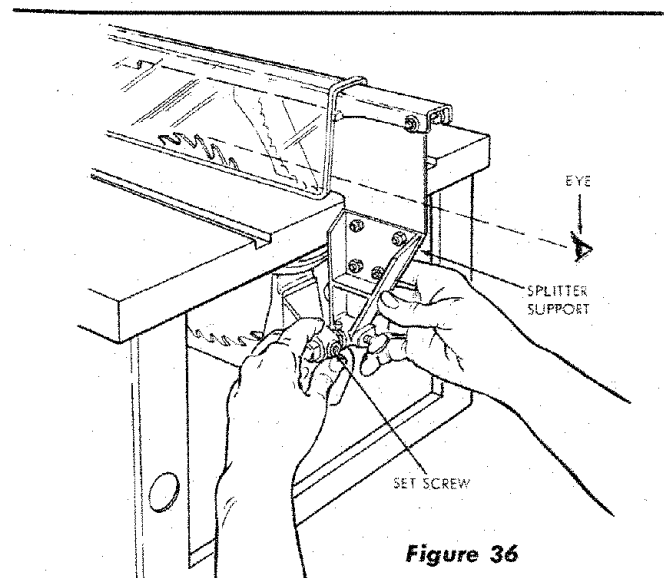
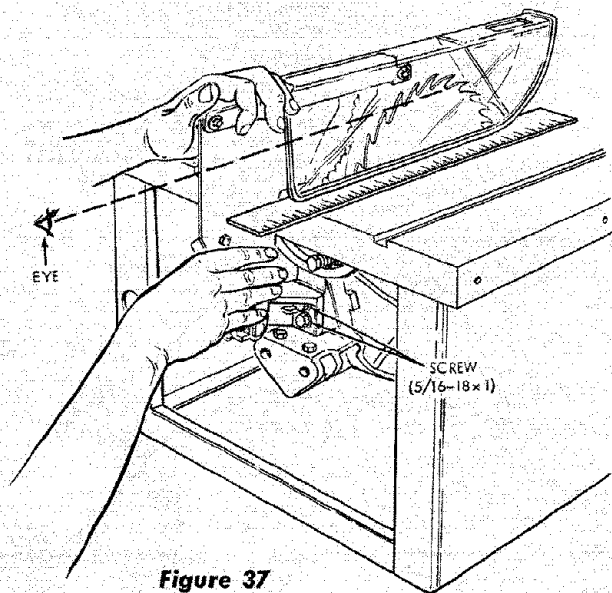

Figure 36
Figure 37
- (4) Slide the splitter rod (attached to splitter support) into the splitter blade bracket until the splitter blade is directly behind the saw blade. (See figure 36.) Do not be concerned if the splitter bar does not align with saw blade vertically as this will be corrected in the next step. Tighten the socket-head set screw in splitter blade bracket with a 5/32-inch hex-L wrench.
(5) With saw blade all the way up, **MAKE SURE IT IS 90° OR SQUARE WITH THE TABLE.** Raise the blade guard and by using a square, adjust the splitter vertically 90° (Square) to the table. Tighten the two 5/16-18 x 1-inch screws to secure the splitter blade bracket to the cradle. Place a large square or straight-edge alongside the saw blade. If the splitter is not in line with the saw blade, loosen the socket head set screw (See figure 36) and move the splitter assembly to the right or left so that it touches the square and is in line with the saw blade (See figure 37). Tighten the set screw.
(6) Recheck to make sure the following screws are tight:
The socket-head set screw (figure 36) that secures the splitter rod, and the two hex-head
screws (figure 37) that attach the splitter blade bracket to saw cradle. Sight along splitter bar and saw blade again after tightening these screws to make sure alignment was not disturbed.